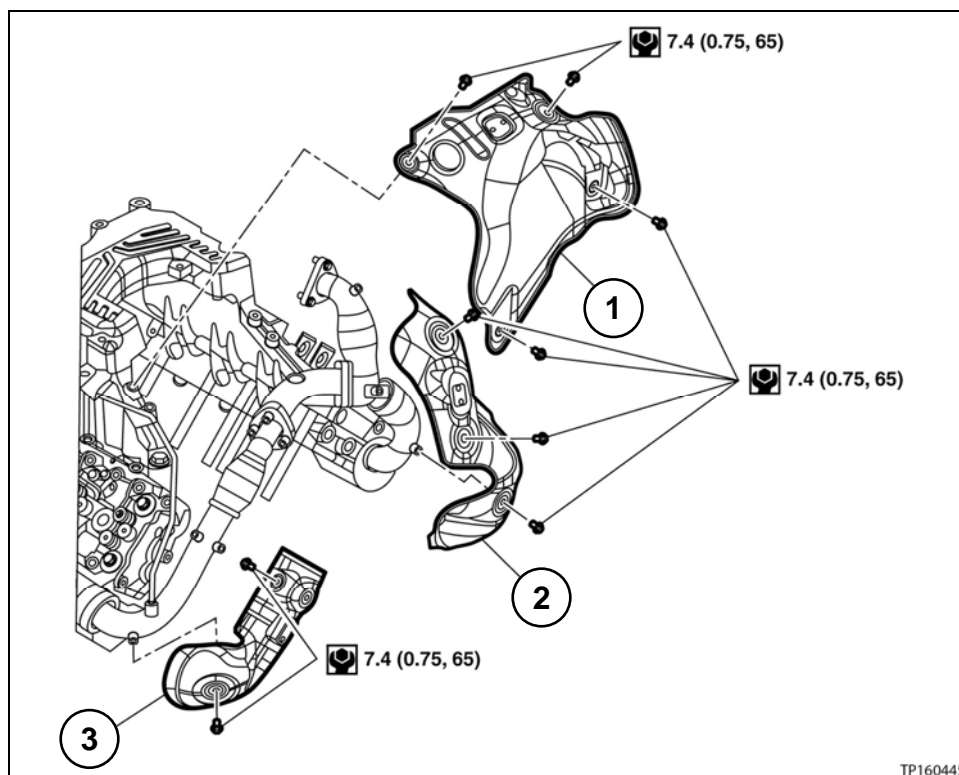

Figure 109
46. Install all three (3) heat shields, center heat shield last (see Figure 109).